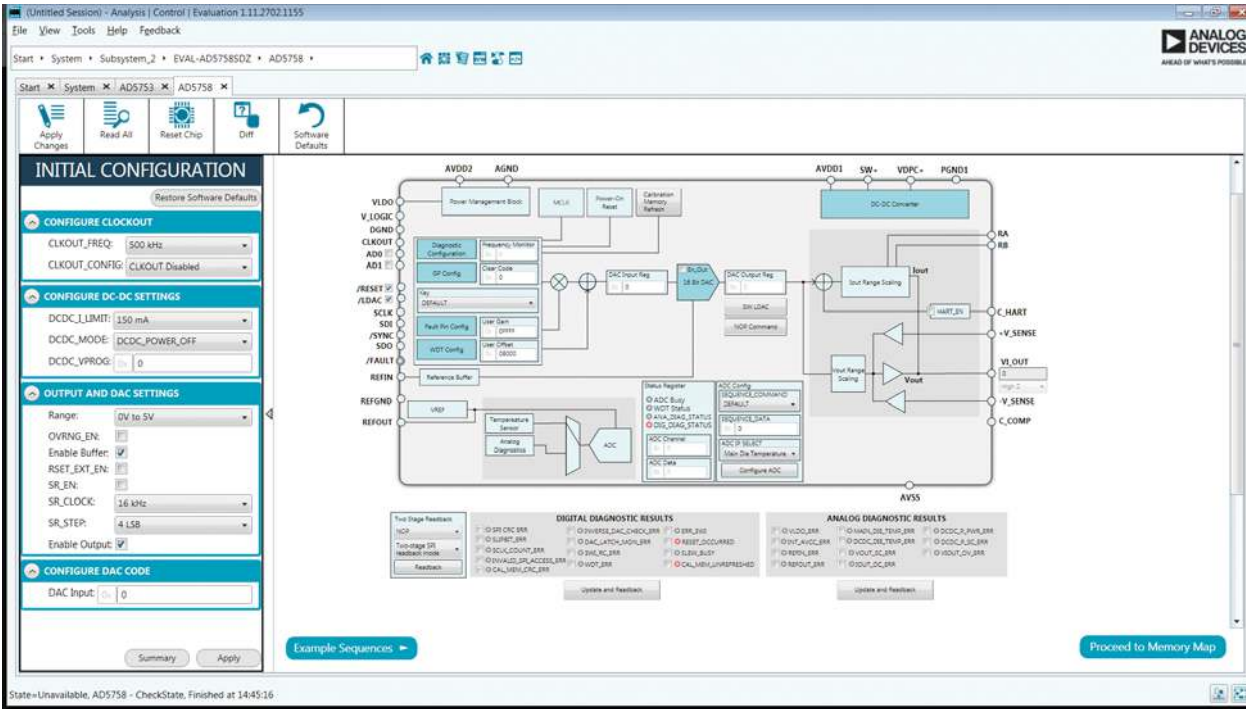

Figure 7. AD5758 Block Diagram in the ACE Software
7. Double-click **EVAL-AD5758SDZ** to open the **AD5758** block diagram (see Figure 7). The **INITIAL CONFIGURATION** pane appears on the left side of the window. Several register settings can be configured in this pane and are written to the device in the appropriate order. The **DIG_DIAG_STATUS**, **RESET_OCCURED**, and **CAL_MEM_UNREFRESHED** LED indicators in the window are illuminated red by default.